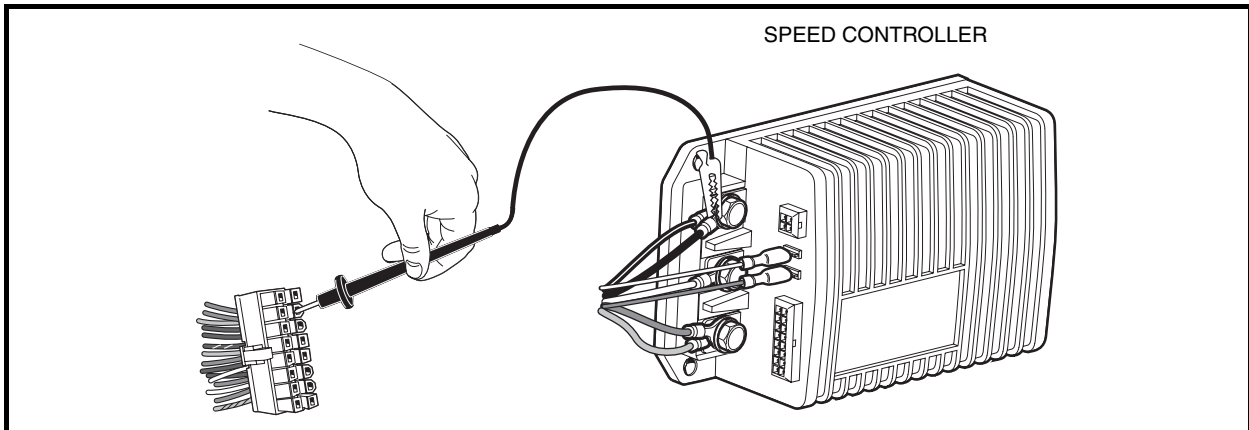

Figure 11-16 Pin 7 Test
4. Place a jumper wire with an alligator clip between the B– terminal of the speed controller (use alligator clip for this connection) and pin 7 (orange/white wire) of the 16-pin connector (**Figure 11-16, Page 11-31**). **See following CAUTION.**